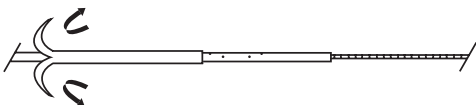

Fig. 3
3. After initial advancement of catheter over the wire guide, pull back and peel away the straightener for catheter introduction. (**Fig. 3**)